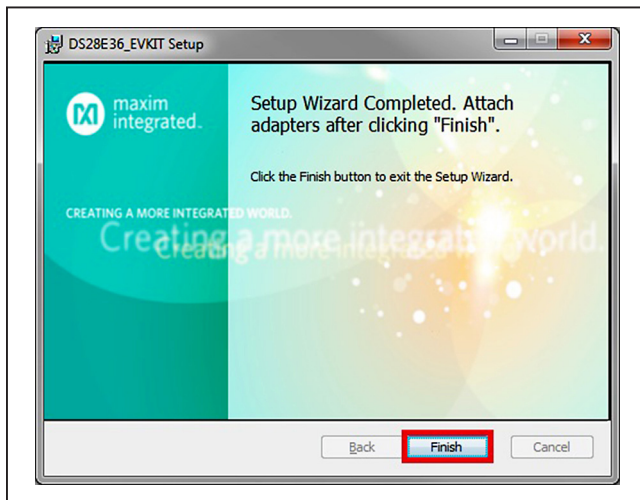

Figure 8. Finish Setup Wizard
- 8) Click the **Finish** button to exit the Setup Wizard (Figure 8).